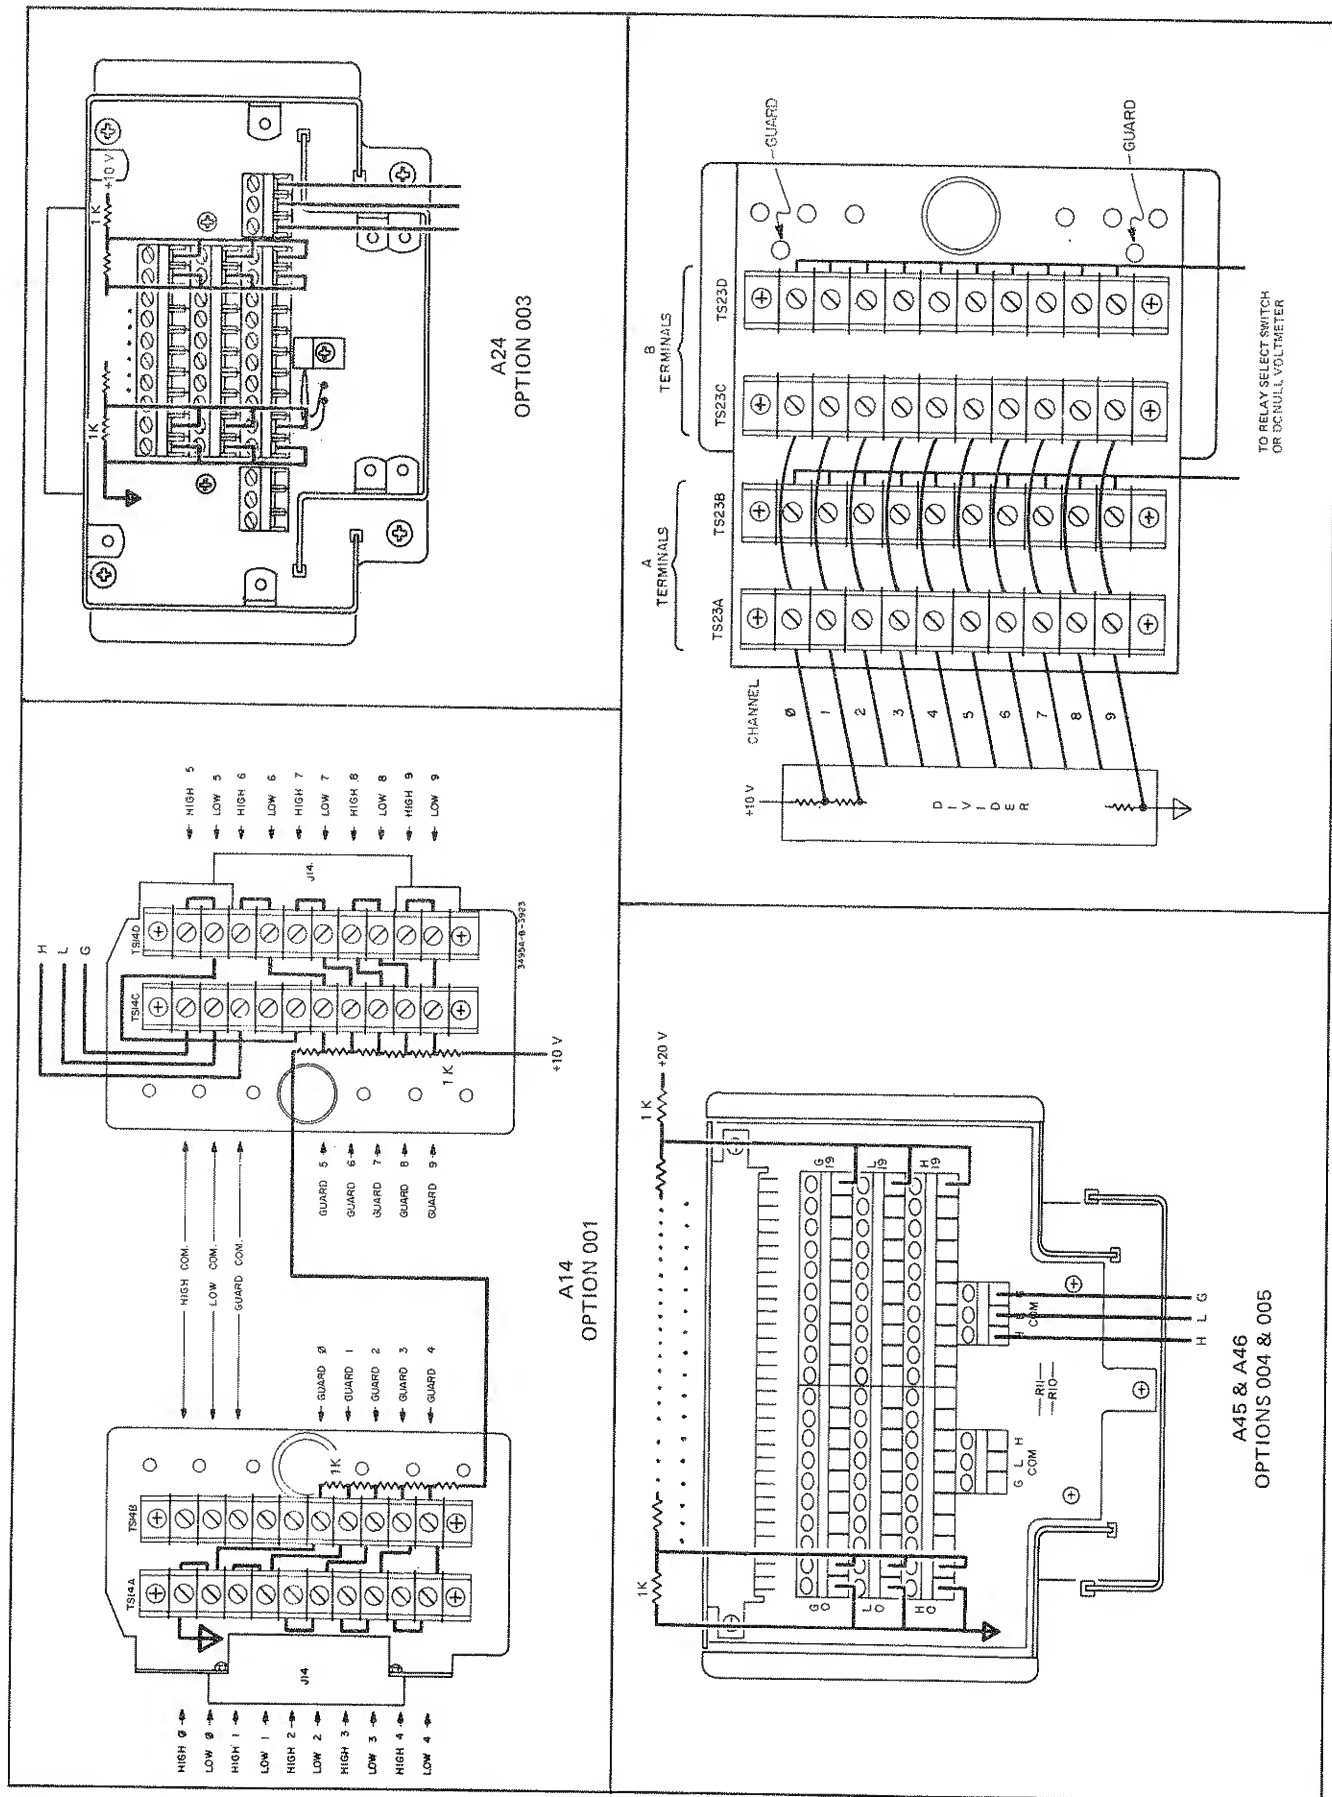
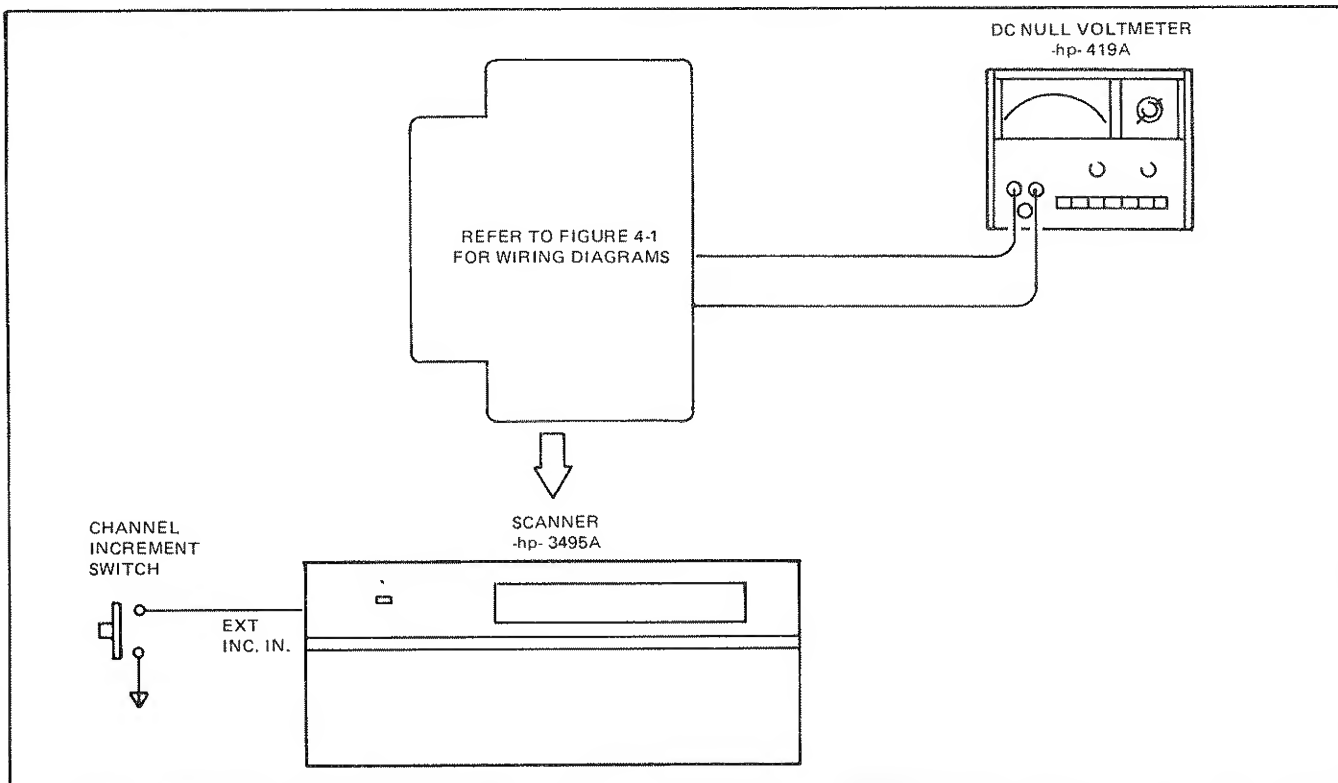

Figure 4-1. Switching Time And Thermal Offset Voltage Test Wiring Diagrams.
Figure 4-4. Thermal Offset Voltage Setup.
- b. Wire the divider network as shown in Figure 4-1.
- Connect the test setup as shown in Figure 4-4. The connector wiring in Figure 4-1 can be used for this test also.
- Repeat Steps b through f for all channels to be tested. The actuator channel measurements require rewiring the connector for each channel measured, unless common connections are wired as in Figure 4-1.